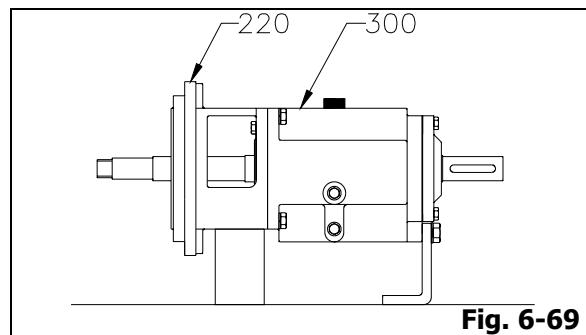

Fig. 6-69
1. Install frame adapter (220) onto bearing frame (300). Align bolt holes and install four (4) frame adaptor bolts. Tighten bolts evenly (Fig. 6-69).